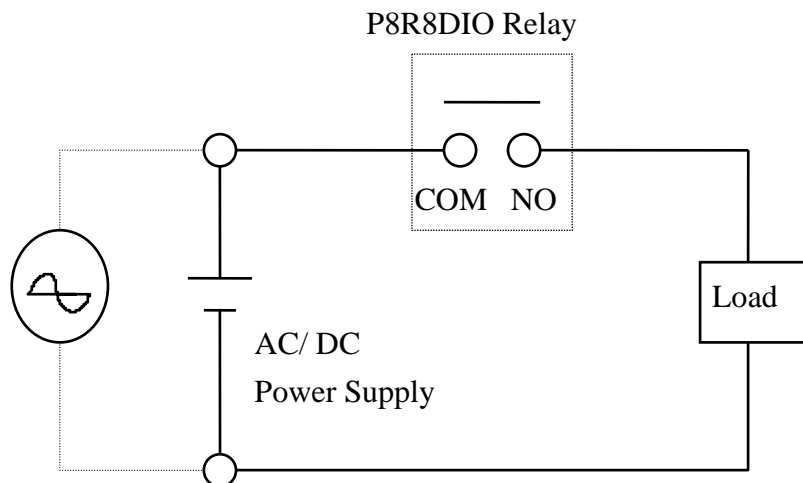

Figure 3-1.
- **Basic Circuitry : (Current Rating < 0.3 A), Refer to Fig. 3-1.**